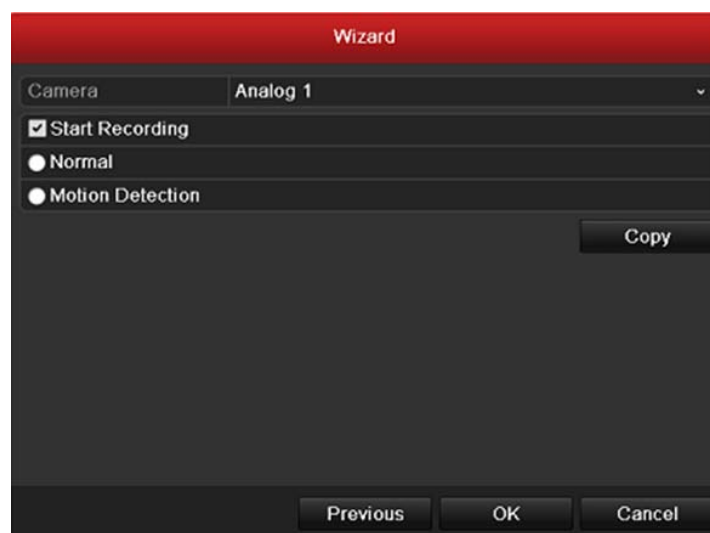

Figure 2.6 Record Settings
9. Click **Next** button to enter the **Record Settings** window, as shown in Figure 2.6.